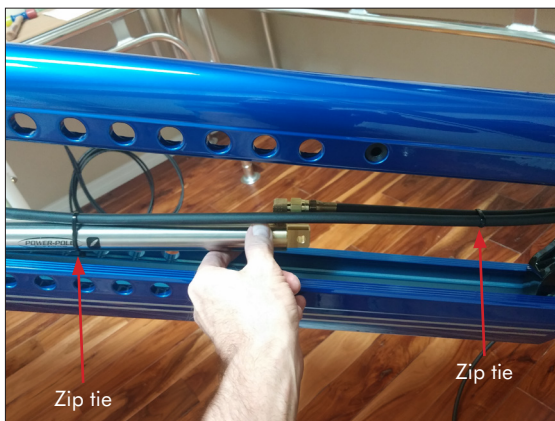

Figure 10
STEP 7 Use **Zip-Ties** to secure the **Hoses**. **FIG 10**